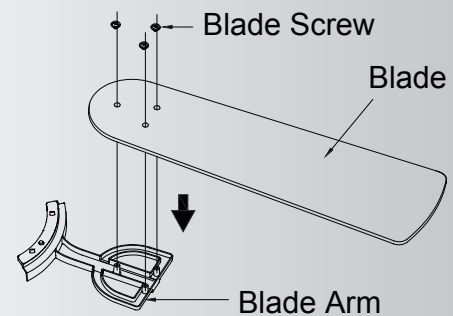

Fig. 18
Step 1. Position the blade over the blade arm with threaded posts showing. Make sure the bottom edge of the blade is fully seated against the blade arm. With a Philips screwdriver, start a screw into the blade arm (do not tighten) and repeat for the 2 remaining blade screws. Tighten each screw securely starting with the center screw. Make sure the blade is straight. Repeat steps for the remaining blades. (Fig. 18)